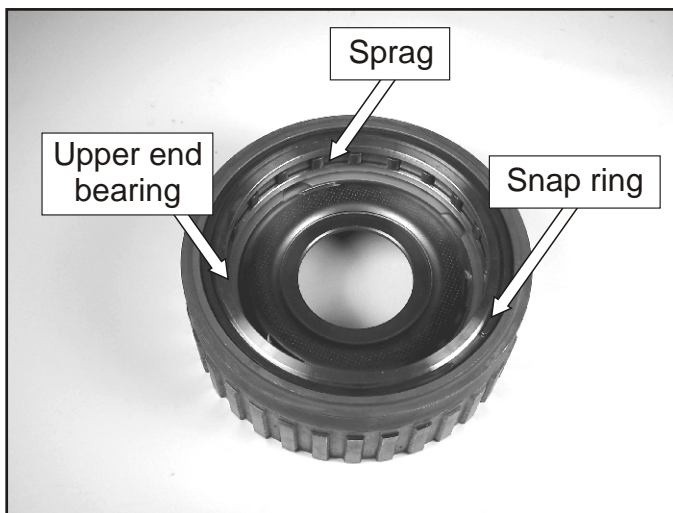
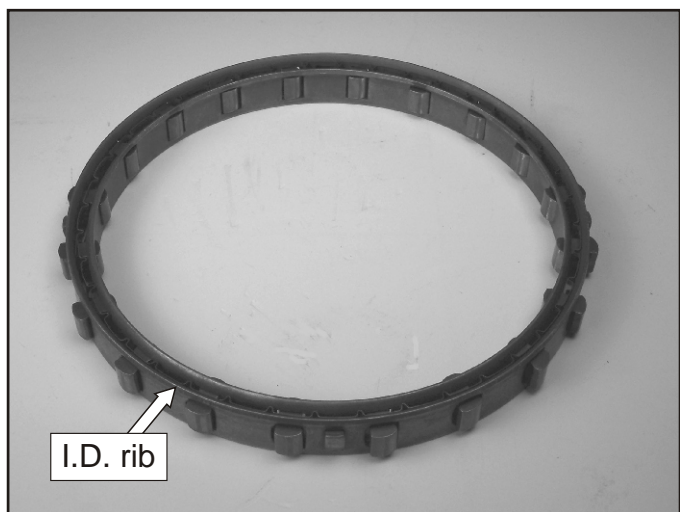

Figure 184
Figure 183
- 127. Inspect the sprag elements and replace as necessary. See Figure 183.
- 128. Assemble the sprag, using Figure 183 for assy. purposes. **Note: I.D. rib faces up.** Assemble the upper end bearing and snap ring as shown in Figure 184.